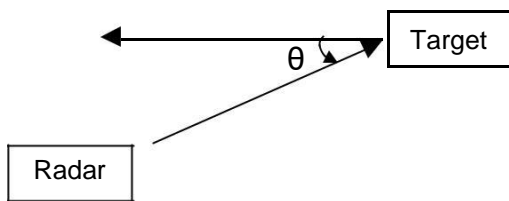

Figure 1. Doppler Shift
- θ** is the angle between the radar beam and the moving target (in degrees) as shown in Fig. 1.